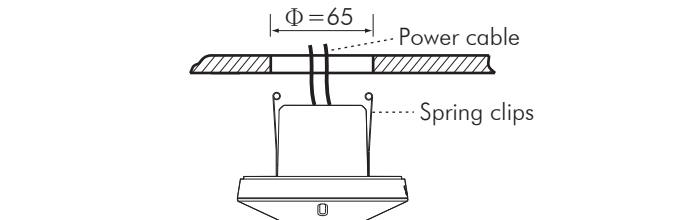

FIG.13
- 3.4.2.4 Close up detector's two spring clips and insert detector into the drilled hole on ceiling (See FIG.13).